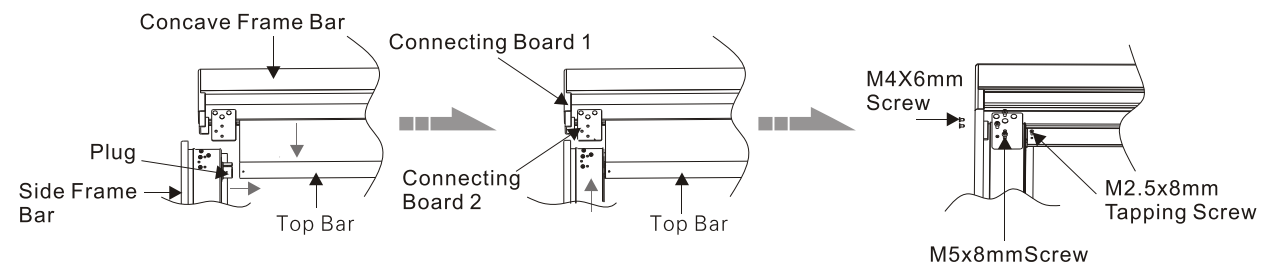

figure 2
1.Pull up the top bar to a suitable distance in order to attach the bar plug into it. And then insert the connecting board 1 and the connecting board 2 into Side Frame Bar (please operate together in two sides). Finally, fasten the corresponding screws: figure 2